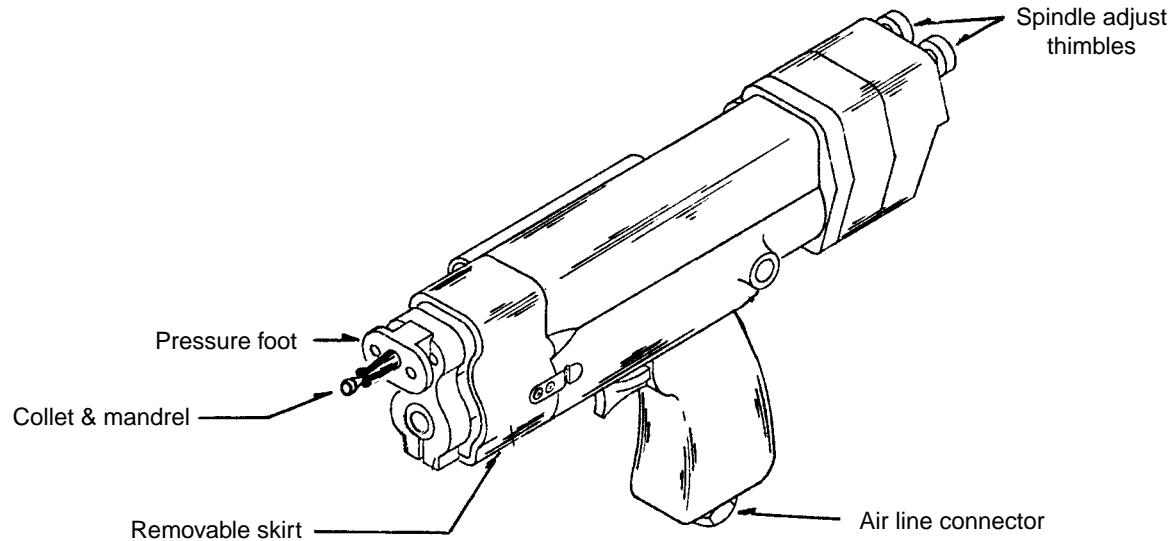

Figure 1 - General Description of Nut Plate Drillmotor
- 4.3 Nut plate drillmotor, collet assemblies and drills as listed in PPS 2.17 for the applicable type and size of anchor nut. Refer to Figure 1 for a general description of the nut plate drillmotor.